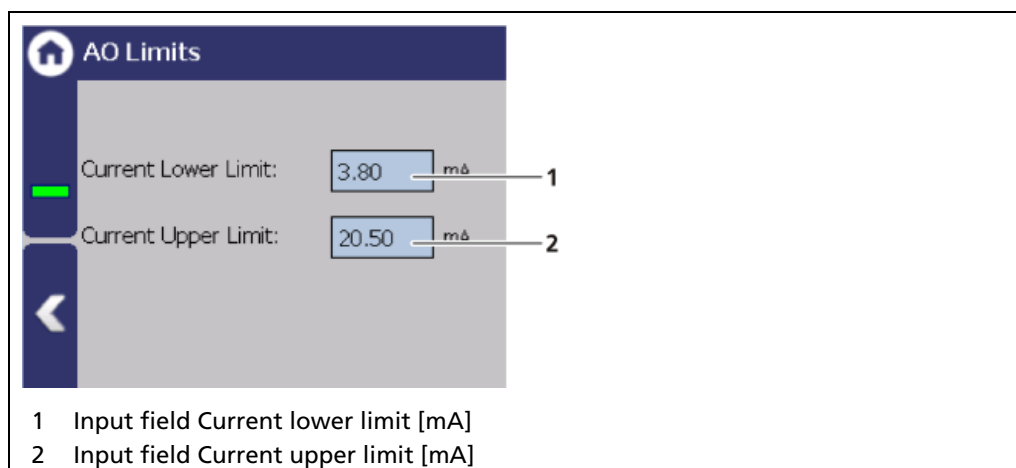

Fig. 102 Analog Output (AO Limit)
By clicking on the input fields (Fig. 102, item 1, item 2), the values [mA] for the lower and upper current limit can be set. In addition to the default value of 3.8 mA, the lower current limit can be set to 0 mA in order to switch the current output from 4 ... 20 mA to 0 ... 20 mA.